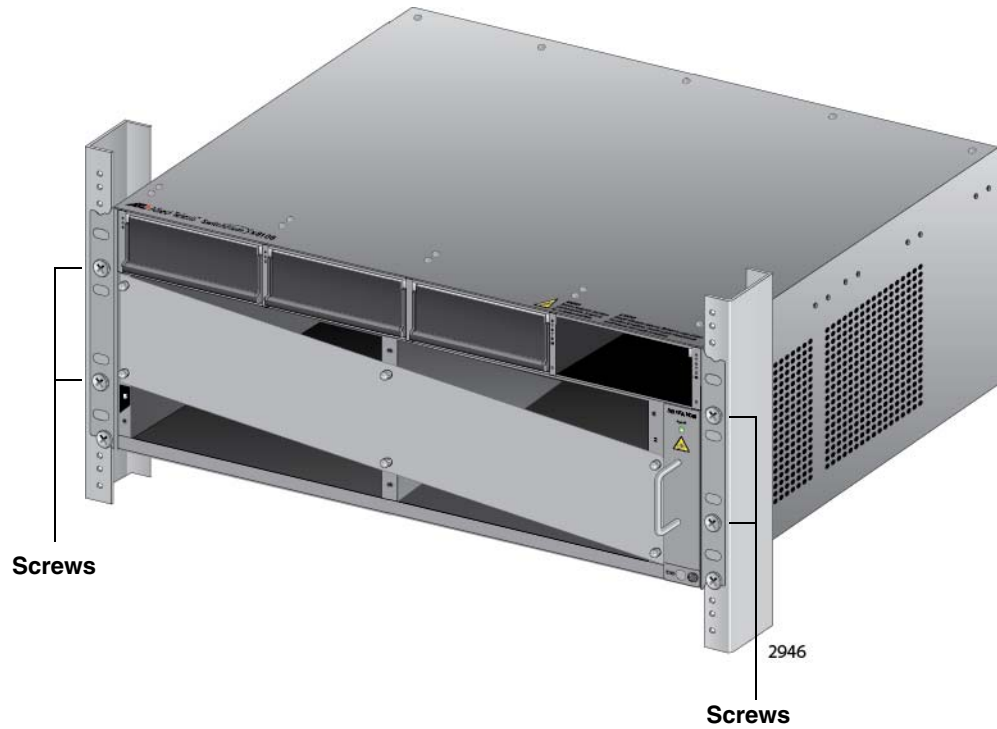

Figure 34. Installing the Rack Mount Screws
4. Install four rack mount screws (not provided) to secure the chassis to the equipment rack, as shown in Figure 34 on page 94.